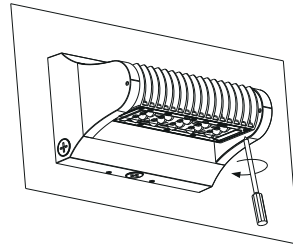

Figure 1-6
6. Adjust viewing angle and tighten screws. (Figure 1-6)